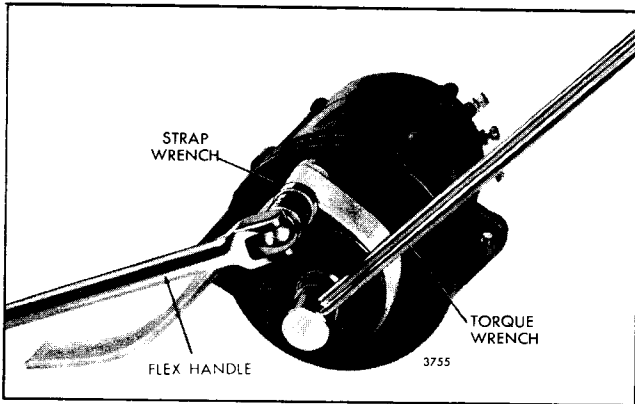

Fig. 5 - Tighten Generator or Alternator Pulley Retaining Nut
1. Install the drive pulley, if it was removed. Tighten the pulley retaining nut to 50-60 lb-ft (68-81 Nm) torque (Fig. 5).